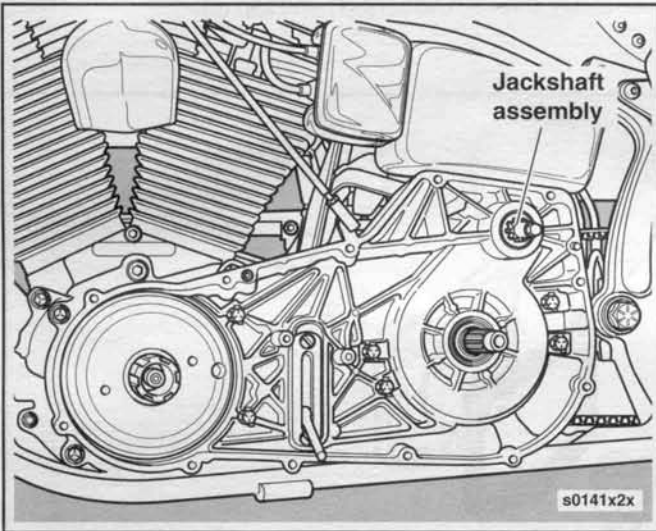

Figure 5-27. Primary Chaincase & Jackshaft Assembly
3. See Figures 5-27 and 5-28. Hold pinion gear in place and remove jackshaft bolt, lockplate and thrust washer.